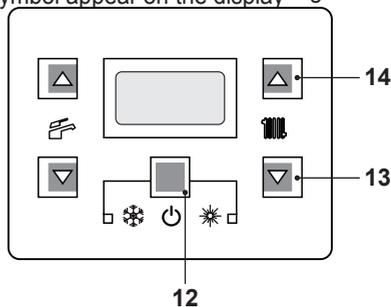

Fig. 2.5
- Press the key 12 for 2 seconds until  symbol appear on the display Fig. 2.5.
The output temperature of C.H. water can be adjusted by pressing keys 13 (reduce) and 14 (increase) (Fig. 2.5) from a minimum of about 25°C to a maximum of about 85°C. Press one of the two keys once to display the "set" value. Press again to access the modification.
However, if the ambient temperature is not comfortable, the flow temperature of the heating system can be adjusted by $\pm 15^\circ\text{C}$ by pressing on keys 13 (reduce) and 14 (increase) (Fig. 2.5).